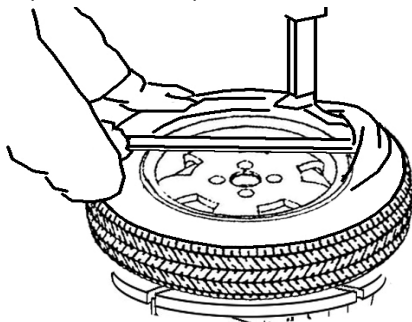

Fig.9
With the lever (T) inserted between the bead and the front section of the mounting head (I) move the tire bead over the mounting head (Fig.9).